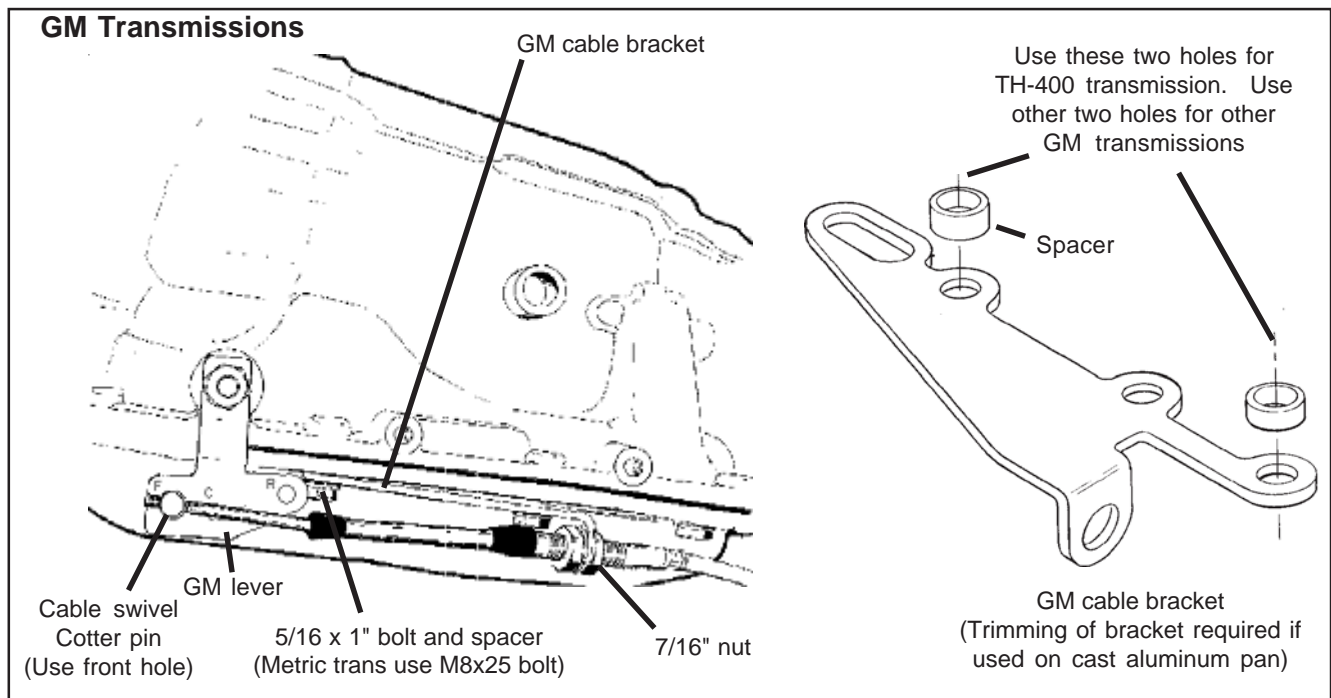

Figure 6
STEP 10. If you have not already done so, remove the stock selector lever nut and selector lever from the transmission. Discard stock lever and stock shifter linkage. Install **B&M** selector lever in position using stock selector lever nut, (See figure 6). Torque nut to 23 lb. ft. The lever should move smoothly from front to rear with a positive click in each gear position.
STEP 11. Remove two transmission oil pan bolts from the middle of the left side of the oil pan. Install cable bracket in position, (See figure 6.) The bracket must be installed with two spacers between the pan and bracket. (If your transmission is equipped with a cast aluminum oil pan, these spacers should be omitted. With a TH-400 with a cast aluminum oil pan the cable bracket may have to be modified.) Install the two 5/16-18 x 1.00" bolts (Metric transmissions use the two 8mm x 25mm bolts) supplied and tighten 12-13 ft. lbs. Do not overtighten as this can damage pan gasket.